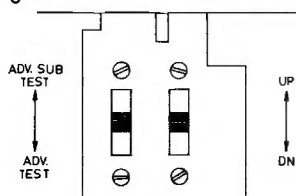

FIGURE 1-4 SELF TEST SWITCHES
There are two (2) Self Test Switches and four (4) positions, located on the inside of Coin Door. See Figure 1-4. The "YOYO"™ game is capable of testing itself and provides data to demonstrate that the games circuitry and the controls are working properly. For further information on the Self Test Procedure refer to Section 1.8 and Figure 1-7.